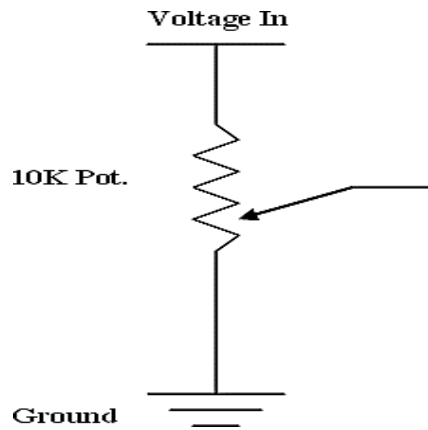

FIGURE 1
- ✓ Set the power supply to 5V. Use this input voltage for the potentiometric circuit in Figure 1. Measure this voltage and record it. This must be held constant throughout the experiment.